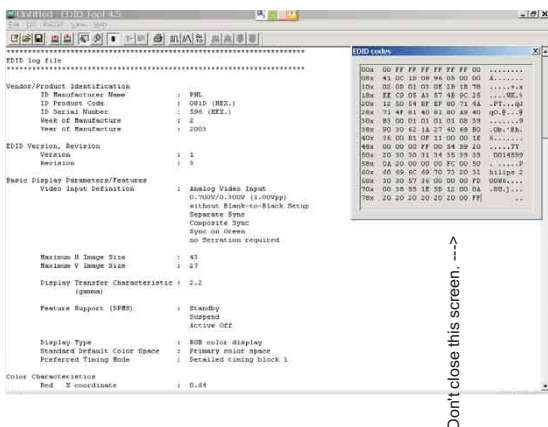

Fig. 14
- Click icon (Read EDID function) to read DDC EDID data from monitor. The EDID codes will display on screen as shown in Fig. 14.